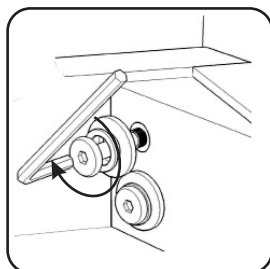

Figure 4
Attach Back Frame (D) to unit with Flat Washers, Spring Washers, Head Cap Bolts (short) and Head Cap Bolts (long), tightening bolts only halfway. (See Figures 4 and 5)